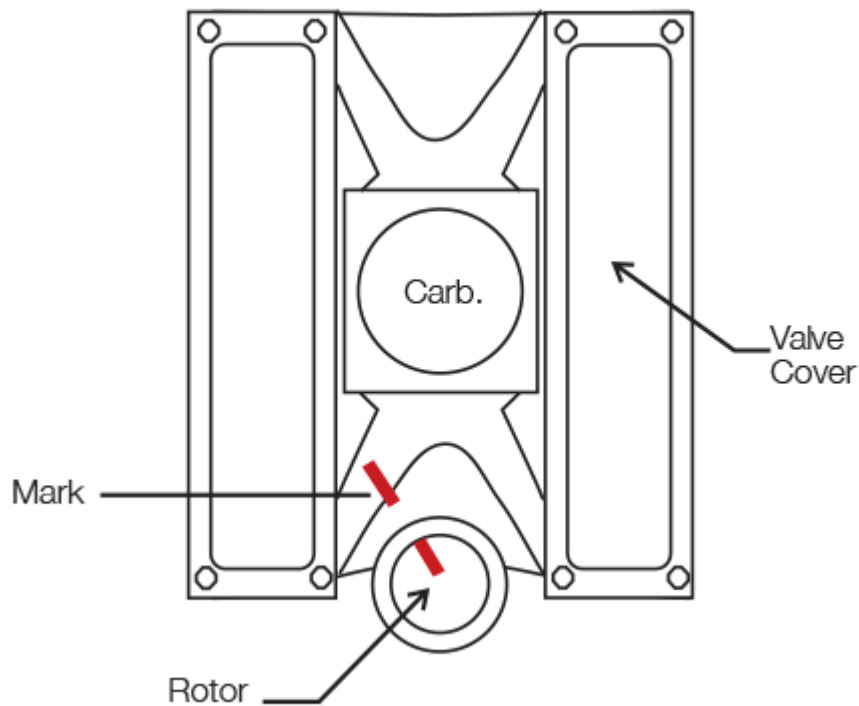

Figure 8
- 2). Aim the distributor rotor at a fixed point on the engine or firewall by Cranking the engine continuously. Note this position by making a mark (Figure 8).